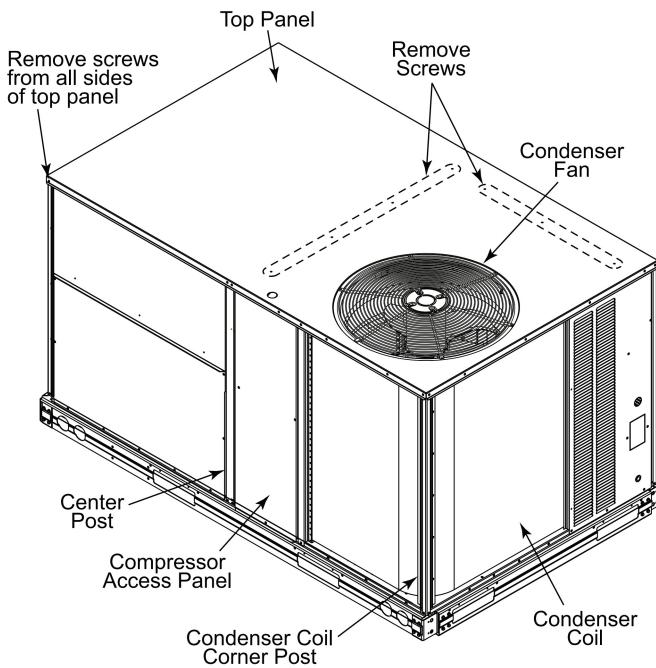

Fig. 13 — Location of Screws and Coil Corner Post
2. Remove all screws from the top panel except the screws securing the condenser fan to the top panel. See Fig. 13.